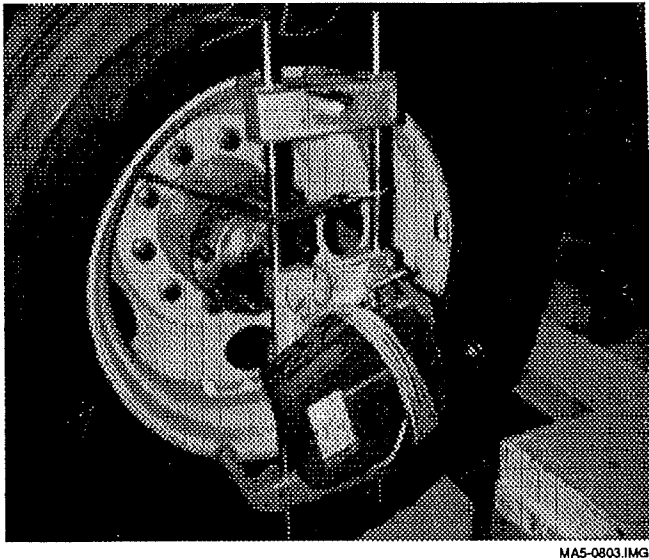

FIG. 3 - Optical toe and tracking system installation
2. Using an optical toe & tracking system installed on each side of axle 3, fix and position the projector in center of wheel. Measure the distance on each side of projector on the mounting rods; distance should be equal on both sides. If not, loosen wing nut, adjust projector to the proper distance, then tighten wing nut. Refer to figure 3.